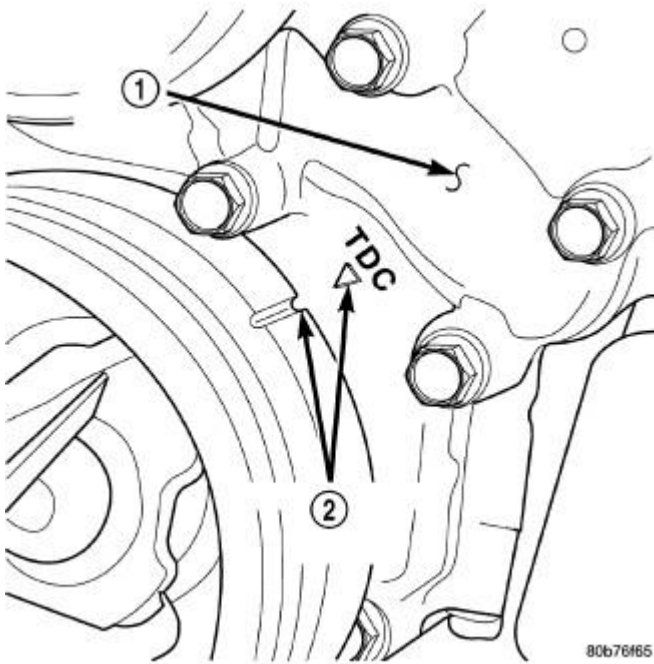

Fig. 49: TDC Indicator Marks
11. Rotate the crankshaft until the damper timing mark is aligned with TDC indicator mark. (2). Refer to **Fig. 49**.